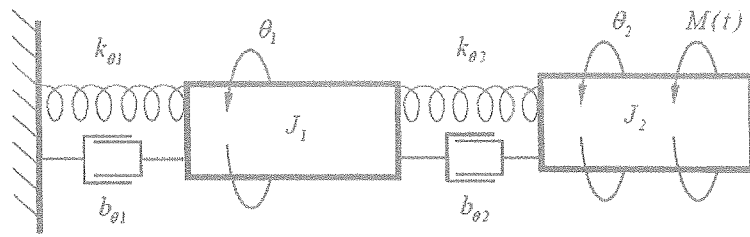

Figure Q2(c): System with Rotating Spring-Damper Inertias
- c) Figure Q2(c) shows two bodies that can only rotate. The first body is connected to the ground via a rotational spring and a rotational damper. The second body is connected to the first body via a rotational spring and a rotational damper. The following data is given: $J_1=J_2= 2 \text{ kgm}^2$, $k_{\theta 1}= k_{\theta 2}=1800 \text{ Nm/rad}$ and $b_{\theta 1}= b_{\theta 2}=8 \text{ Nms/rad}$. The rotational spring between ground and the first body is undeformed when $\theta_1=0 \text{ rad}$ and the second spring is undeformed when $\theta_1= \theta_2$. Four different situations are to be investigated. They are characterized by the external applied moment $M(t)=M_0 \sin (\omega_p t)$.